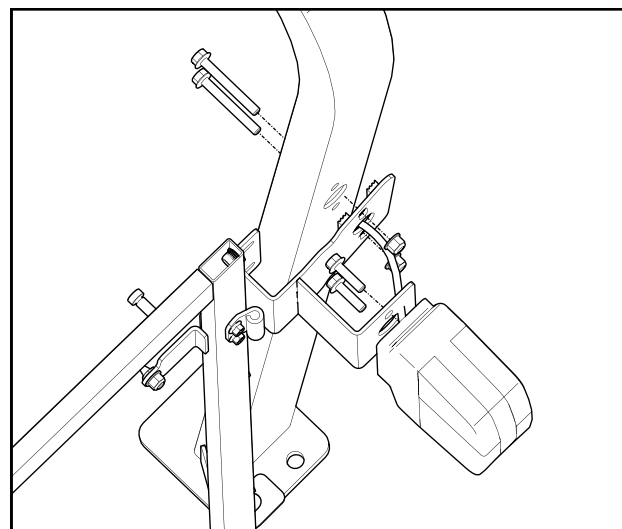

Fig. 8.2 (Non-Folding ROPS Brackets)
**8.2** Install the left ROPS bracket to the fixed ROPS as shown. Repeat on the right side. Leave bolts loose. See Fig. 8.2
**8.4** Reinstall Vehicle lights to open position on ROPS brackets. See Fig. 8.2 or 8.3, depending on vehicle model. Feed wire down through ROPS and reconnect under vehicle fender.